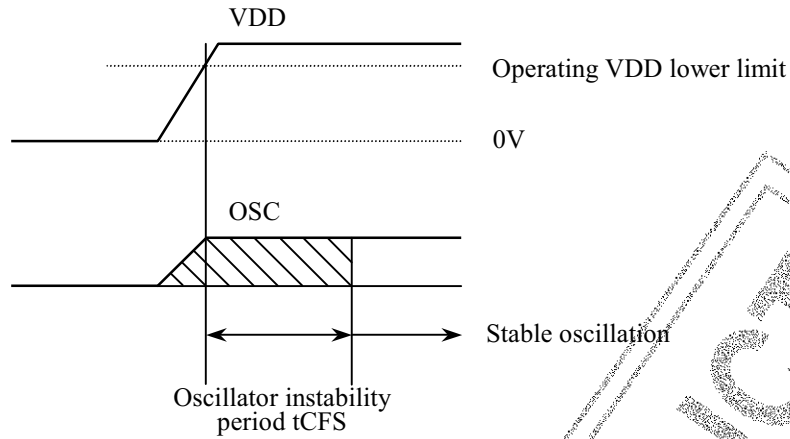

Figure 3 Oscillator Stabilization Period
- When driven internally using the oscillator circuit shown in Figure 3 with guaranteed constants, values up to the amplitude of the generated oscillation are allowed.